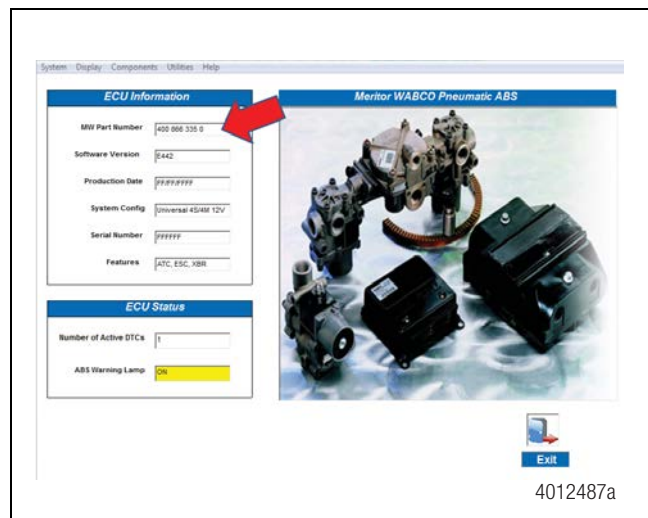

Figure 3
3. On the main ABS ECU screen, locate the field for the ECU part number. Confirm the ECU part number is correct. Figure 3.